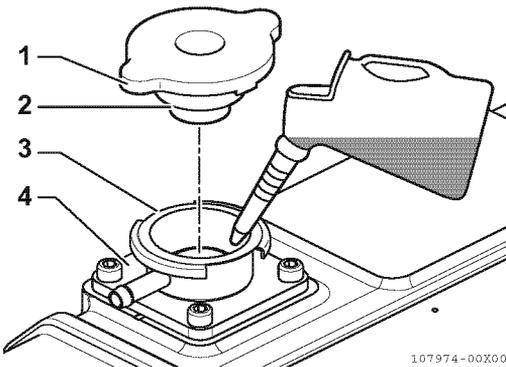

Figure 10
3. Pour coolant slowly into coolant tank (**Figure 10, (4)**) to avoid air bubbles. Fill until coolant overflows from the filler port.
4. Align filler cap tabs (**Figure 10, (1)**) with filler port notches (**Figure 10, (3)**) and tighten filler cap (**Figure 10, (2)**) firmly.